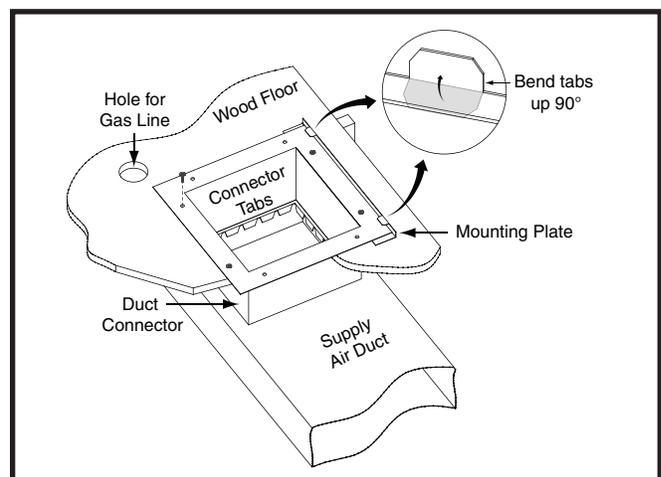

Figure 8. Standard Duct Connector Installed
2. Mark the cut-out area on the supply air duct by tracing around the connector tabs of the duct connector. See Figure 8 \(page 7\).
5. Install the mounting plate under the back side of the duct connector as shown in Figure 8. Align the screw holes in both components.